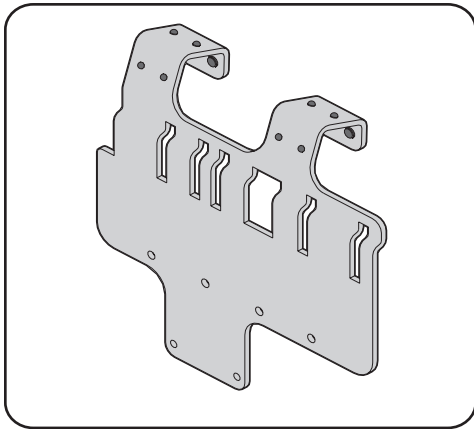

Figure 4-1
1. Install 12 rubber pads (735-05938) into adapter bracket (789-02277) using the mounting holes shown in Figure 4-1.